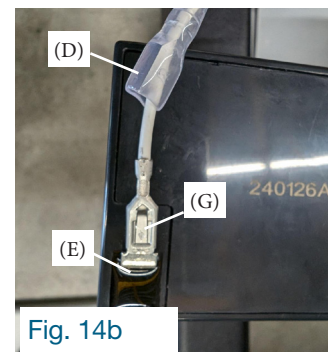

Fig. 14b
5. For each battery, there are (2) wires connected. For each of these wires, slide the protective sleeve (D) over the wire to release the connector (G) from its protection, then disconnect the connector (G) from the battery terminal (E) by pressing lightly under it (fig. 14b).
6. Remove the (2) expired batteries and retain the wires for connecting the new batteries.